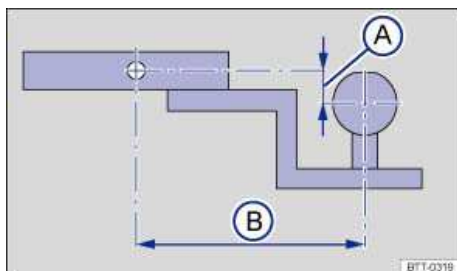

Fig. 108 Dimensions of the ball mount support.
⇒ fig. 108 (A), and the pin-to-ball distance (B).